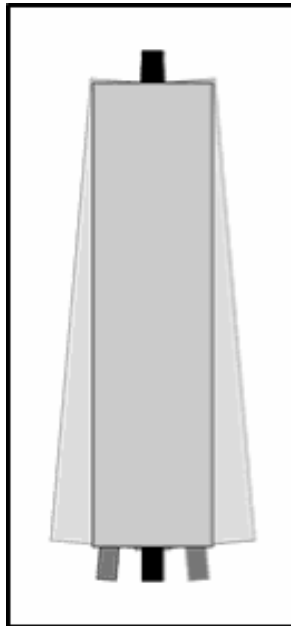

Figure 2-3 Maximum tilt angle 5 degrees
**CAUTION:** Maximum tilt angle for the TMA is 5 degrees as shown in Figure 2-3.